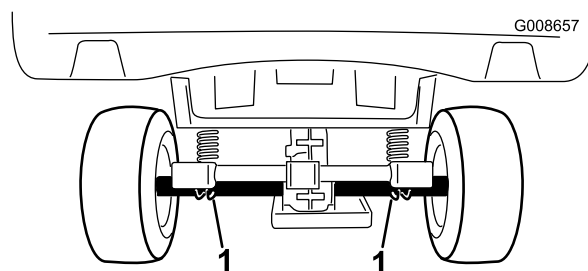

Figure 26
- The lifting point at the rear of the machine is under the axle tubes (Figure 26).